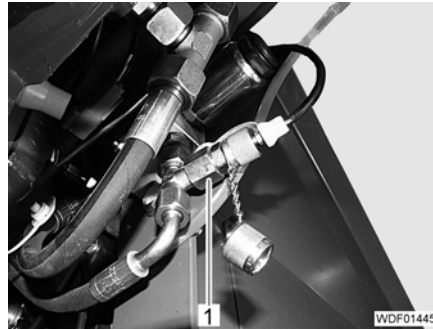

Fig. 18 Test connection "G"
- Connect test manometer to the test connection "G" (Fig. 18,1).